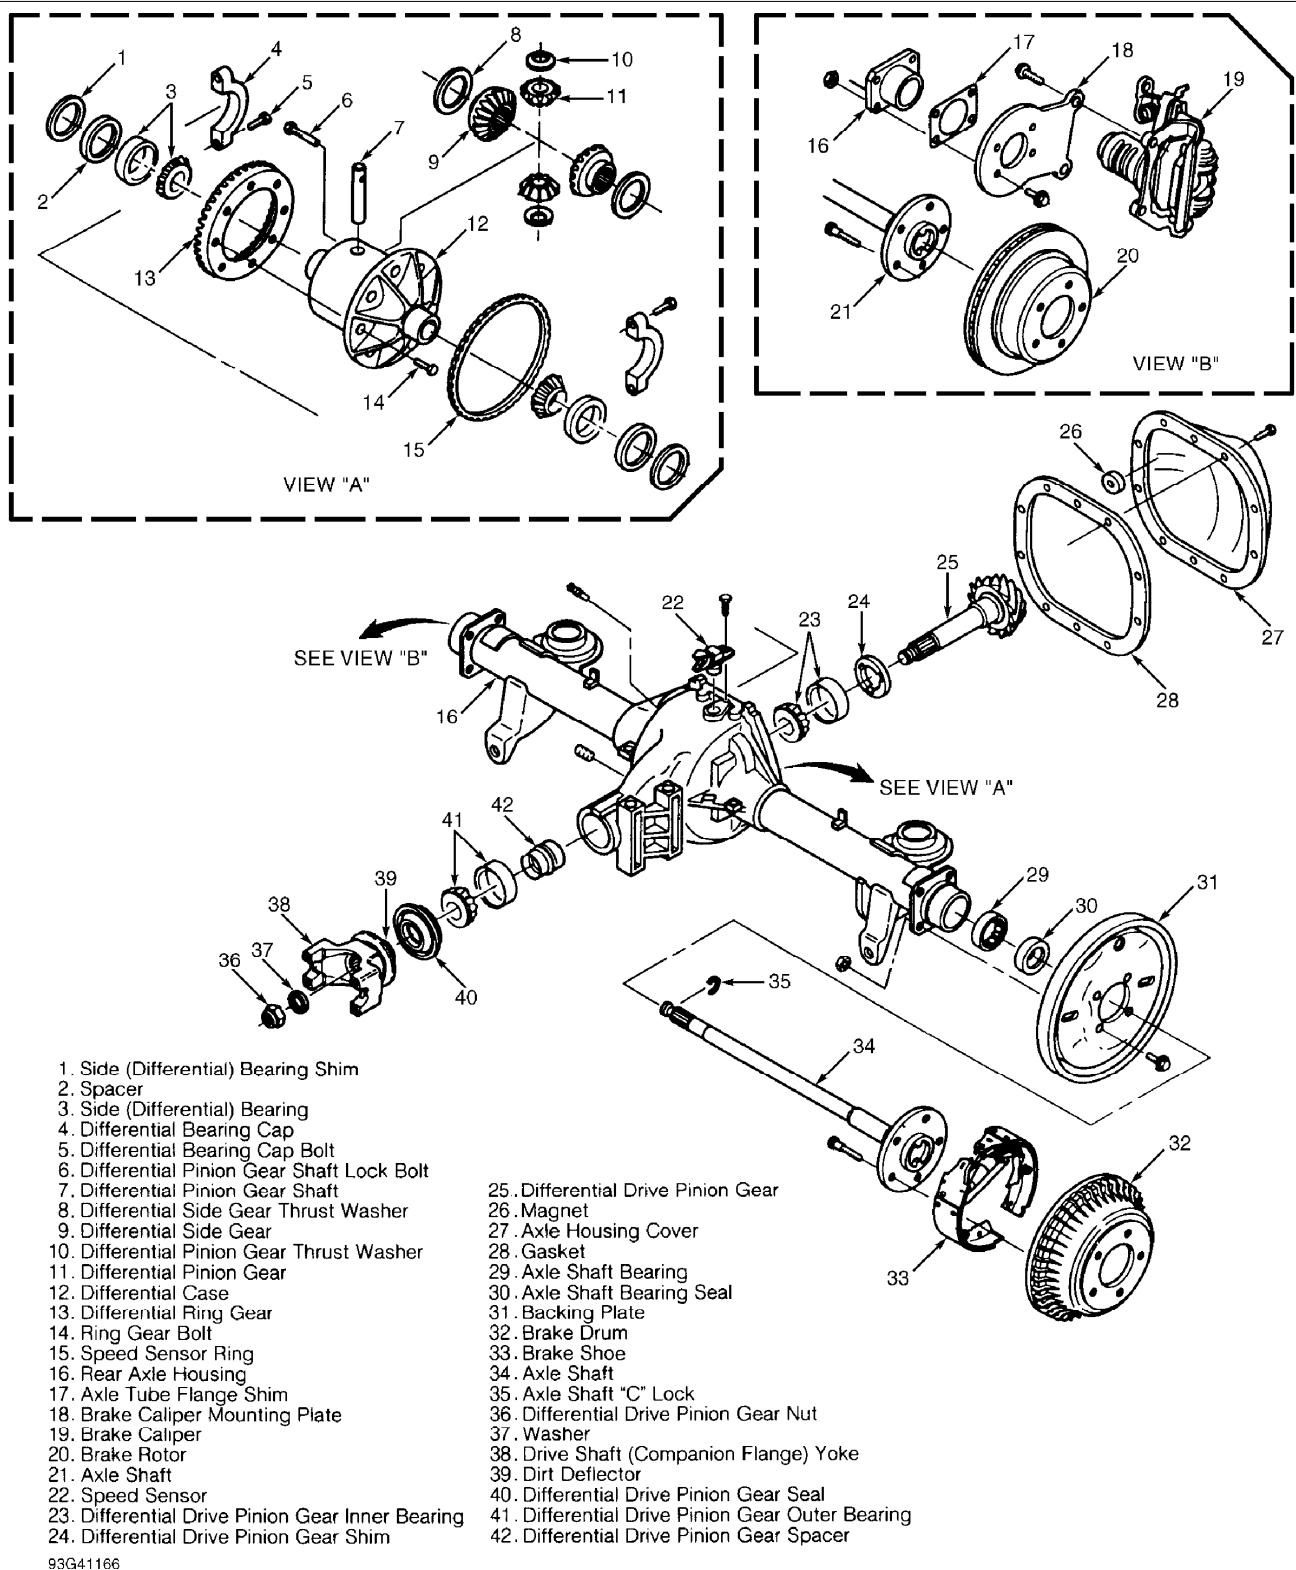

Fig. 3: Exploded View Of Rear Axle Assembly
3) Remove differential pinion shaft, gears and side gears with thrust washers. See Fig. 3. Keep components in order for reassembly. Remove ring gear bolts (left-hand threads). Tap ring gear off differential case using soft drift and hammer. On ABS models, DO NOT pry between speed sensor ring and ring gear. Using brass hammer, remove speed sensor ring (if necessary).